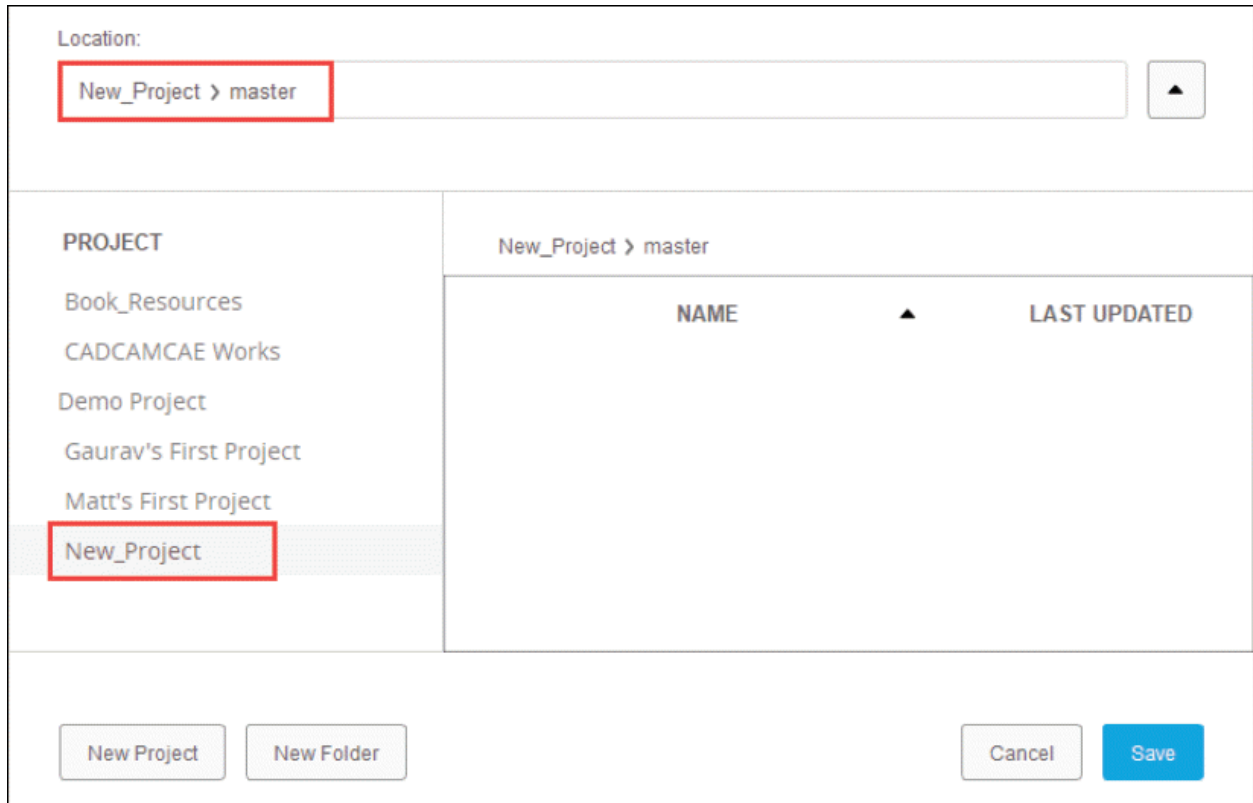

Figure-26. Location selected for saving file
- Specify desired name for the project in displayed edit box and click anywhere in blank area of the dialog box. The new location will be created. Select this new location to save the file; refer to Figure-26.